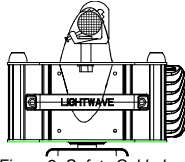

Figure 2. Safety Cable Installation
3. Loop the safety cables through an outer hole on the base of the unit, around the handle, and out the other outer hole. Refer to Figure 2.